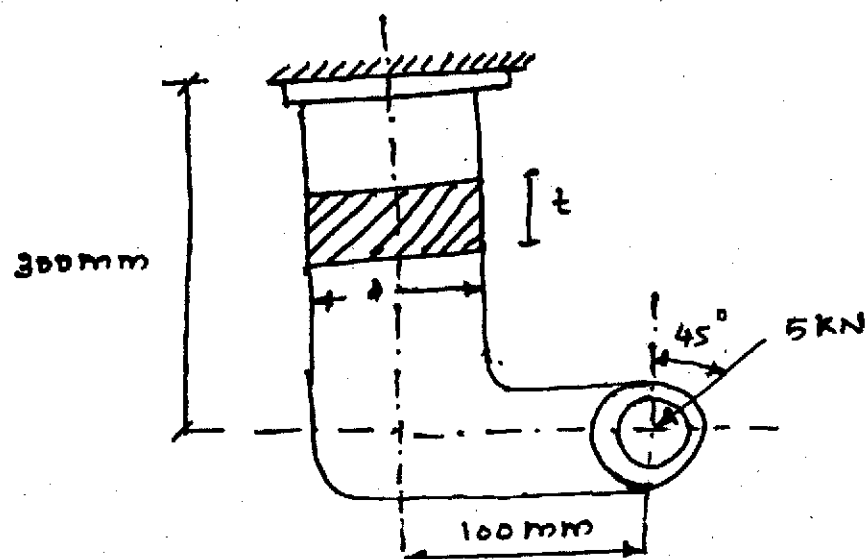

Fig. 14
- (c) A bracket shown in Fig. 14 is subjected to a pull of 5 kN acting at an angle of 45° to vertical. The bracket has a rectangular section whose depth is two times its thickness. If the permissible tensile stress is 55 N/mm^2 , determine the cross-section of the bracket. [8]